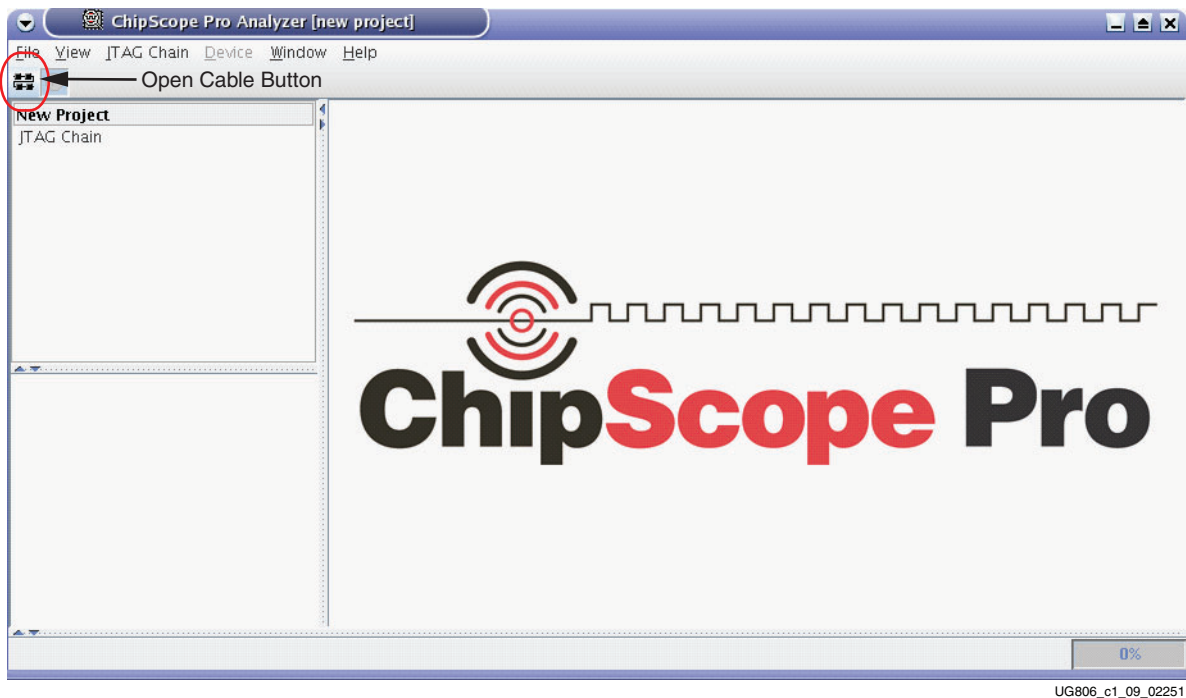

Figure 1-9: Open Cable Button
3. Click the **Open Cable** button (Figure 1-9).